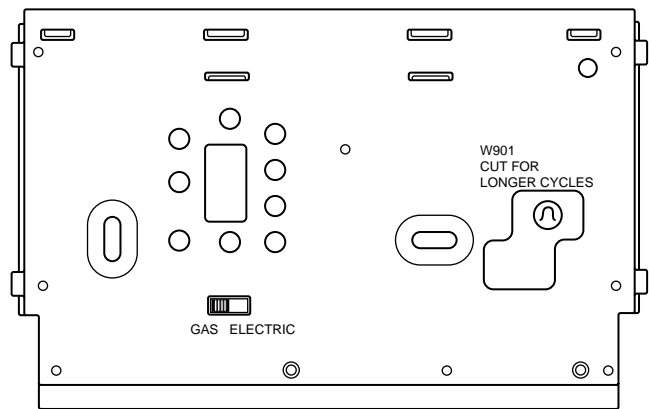

Figure 1. Back of thermostat base
If your system is an electric heat or heat-pump system that REQUIRES the thermostat to turn on the fan on a call for heat, locate the **GAS/ELECTRIC switch** on the back of the thermostat (see fig. 1) and switch it to the **ELECTRIC** position. This will allow the thermostat to energize the fan immediately on a call for heat. If you are unsure if the heating/cooling system requires the thermostat to control the fan, contact a qualified heating and air conditioning service person.
3. A jumper is located on the back of the thermostat, so that you may customize the thermostat to meet your individual preference (see fig. 1). In most applications, the factory jumper setting provides the most comfortable and convenient thermostat operation.